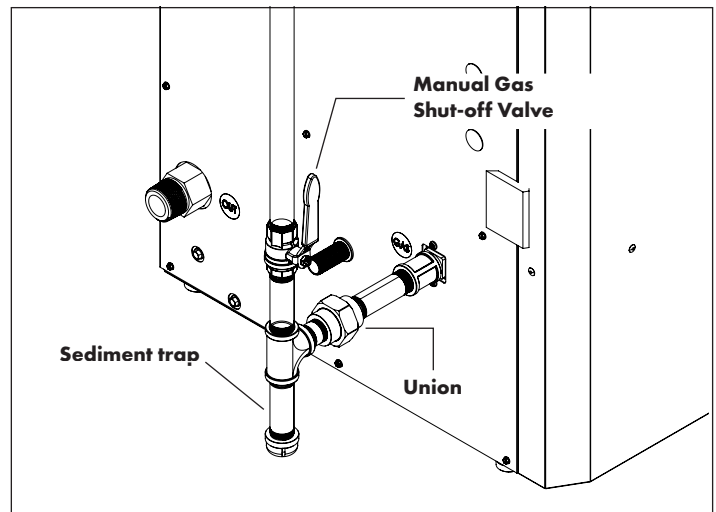

Figure 57 - Gas Line with Shut-Off and Sediment Trap Detail
- The National Fuel Gas Code (NFPA 54) requires that a sediment trap (drip leg) be installed in the gas line on boilers not so equipped. The drip leg must be accessible, a minimum of 3" in length, and not subject to freezing conditions. See Figure 57.
- A manual gas shut-off valve should be installed in the gas supply line close to the boiler. See Figure 57.